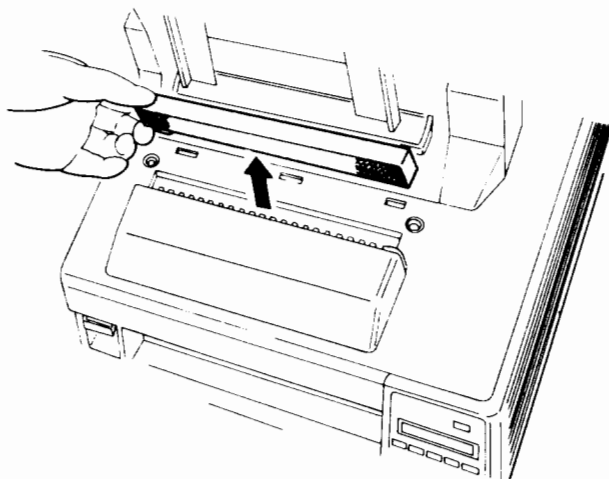

Figure 7-17 Replacing the ozone filter
2. Remove the filter and insert a new one as shown in Figure 7-17.